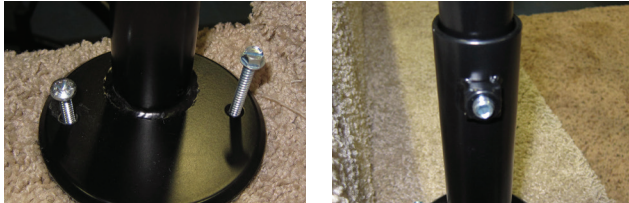

Figure 3-31
1. Re-check angles, then, using the appropriate hardware, attach the supports to the stairs, starting at a corner. Firmly set the supports to the rail with set screw. Repeat the process at the other corners; re-check angles. Complete all other legs. *See Figure 3-31.*